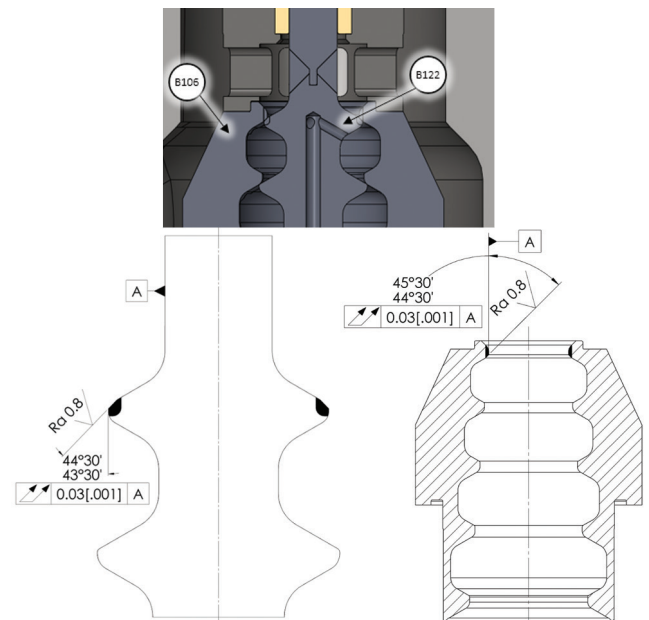

Figure 18: Seat Lapping
Seating surfaces may need to be lapped in order to restore the necessary surface integrity to meet valve leakage requirements. Prior to lapping ensure the plug and seat ring seating surfaces are free from large scratches or dents. Remachining of these surfaces may be necessary. If so a maximum of .015" (0.4mm) metal removal from both the plug and seat seating surfaces is allowable for any valve size. Seating Surfaces Make sure the seating angles on the reworked parts are within the specified tolerances as shown in Figure 18. Parts requiring more metal removal to restore should be discarded and replaced.
- Spread a fine layer of high quality lapping compound (600 grit) on the seating surface of the seat ring. If lapping with the trim installed inside the valve, insert the liner/seat (B106) into the valve body (1).
- After lapping, disassemble the parts to clean them and then reassemble, making sure the seating angles are within tolerance as shown in Figure 18.
- Gasket seating surfaces must be free of dents, scratches, corrosion, or other types of damage. Clean mating surfaces as required and replace any non-conforming parts. Spiral wound gaskets (items 7, 8 and 34 for top entry designs) must always be replaced after disassembly.